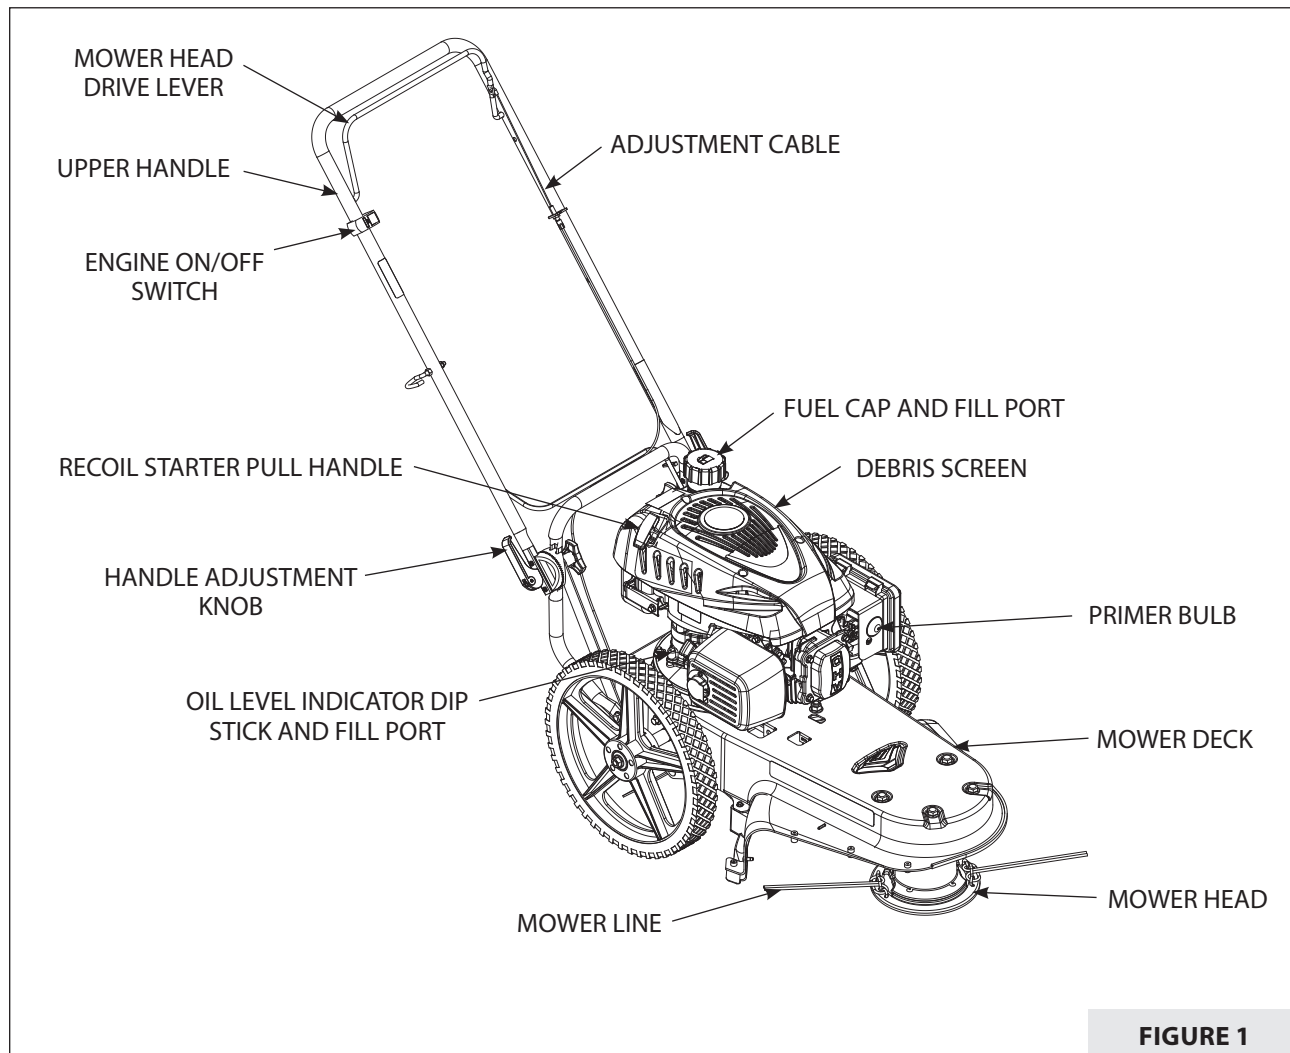

FIGURE 1
Read this owner's manual and safety rules before operating your mower. Take time to compare the following illustration with the mower to familiarize yourself with the product and its controls. **SEE FIGURE 1.** M200 model shown below.
1. Before each use, remove debris from the debris screen. **SEE FIGURE 1 IN "FEATURES" SECTION.** Debris can cause the engine to overheat. Wipe the debris screen with a cloth or paper towel.